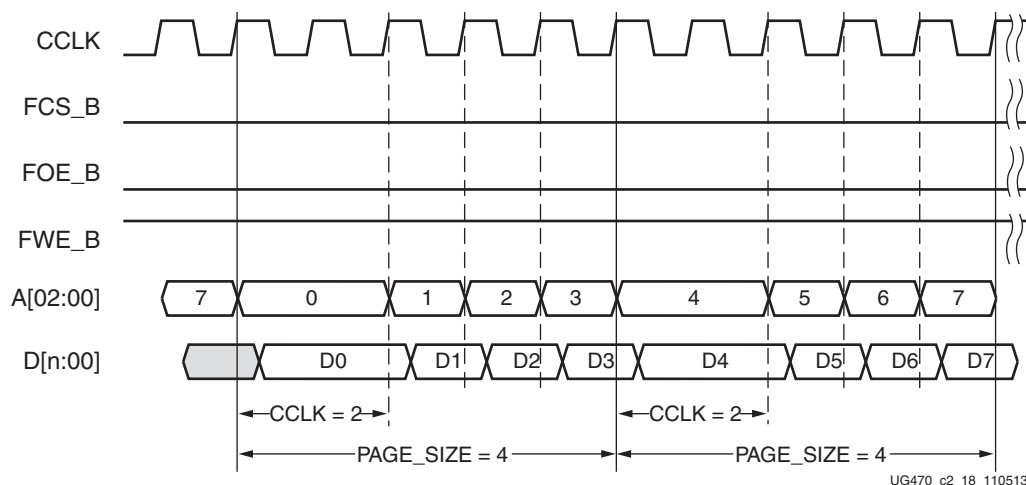

Figure 2-19: BPI Waveforms (Page Size = 4 and First Access CCLK = 2)
The sequence of page-mode operation is controlled by the 7 series FPGA bitstream. After an FPGA reset, the default page size is 1, the first access CCLK is 1, and the master CCLK is running at slowest default frequency. The COR0 register contains master CCLK frequency control bits (see Configuration Options Register 0 \(01001\), page 107). The COR1 register contains BPI flash page mode control bits (see Configuration Options Register 1 \(01110\), page 110). After the COR1 register is programmed, the BPI address timing switches at the page boundary as shown in Figure 2-19. When the SWITCH command is received, the master CCLK switches to a user-desired
Notes related to Figure 2-19:
1. Figure 2-19 shows BPI mode, a page size of 4, and a first access CCLK of 2.